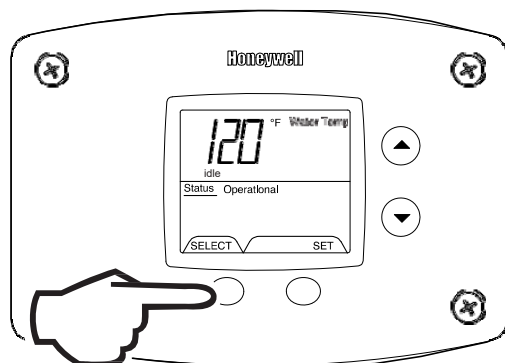

Fig. 42
2. Water Temperature Average (Displays average if there are two sensors – sensor temperature displayed if single sensor is used) (Fig. 42).